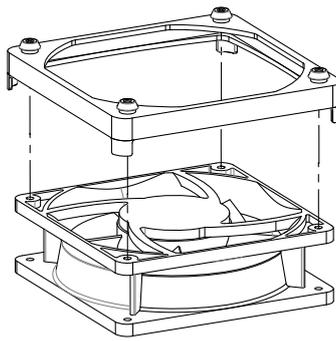

Fig. 16: Rubber collar
- ☞ Attach the rubber collar to the replacement fan (figure 16 on page 43).